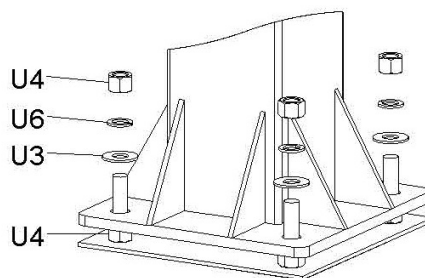
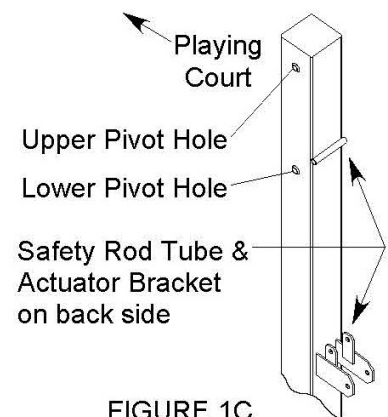

FIGURE 1B
FIGURE 1C
- B. Remove the Padding from Main Post (A). Place the Main Post (A) over the J-Bolts. Slide a Thick Washer (U3), a Lock washer (U6) and thread a Hex Nut (U4) to each J-bolt. Tighten the Nuts only a few turns onto the J-Bolts as shown in FIGURE 1B.
- C. If the Main Post (A) is not exactly vertical, adjust the J-Bolt Hex Nuts (U4) located under the Post base. Tighten all of the Hex Nuts (U4) Above Post base when Main Post (A) is vertical.
*NOTE: Face the Main Post (A) with Actuator Bracket facing away from playing court (as shown in FIGURE 1C).*